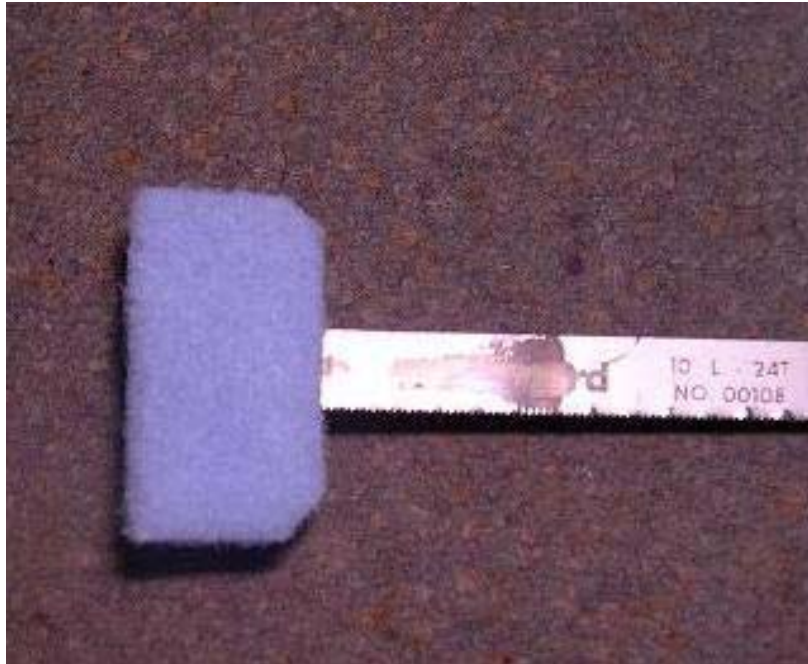

Fig. 8
10. Fold Velcro over Gray Tape as shown in Fig. 8